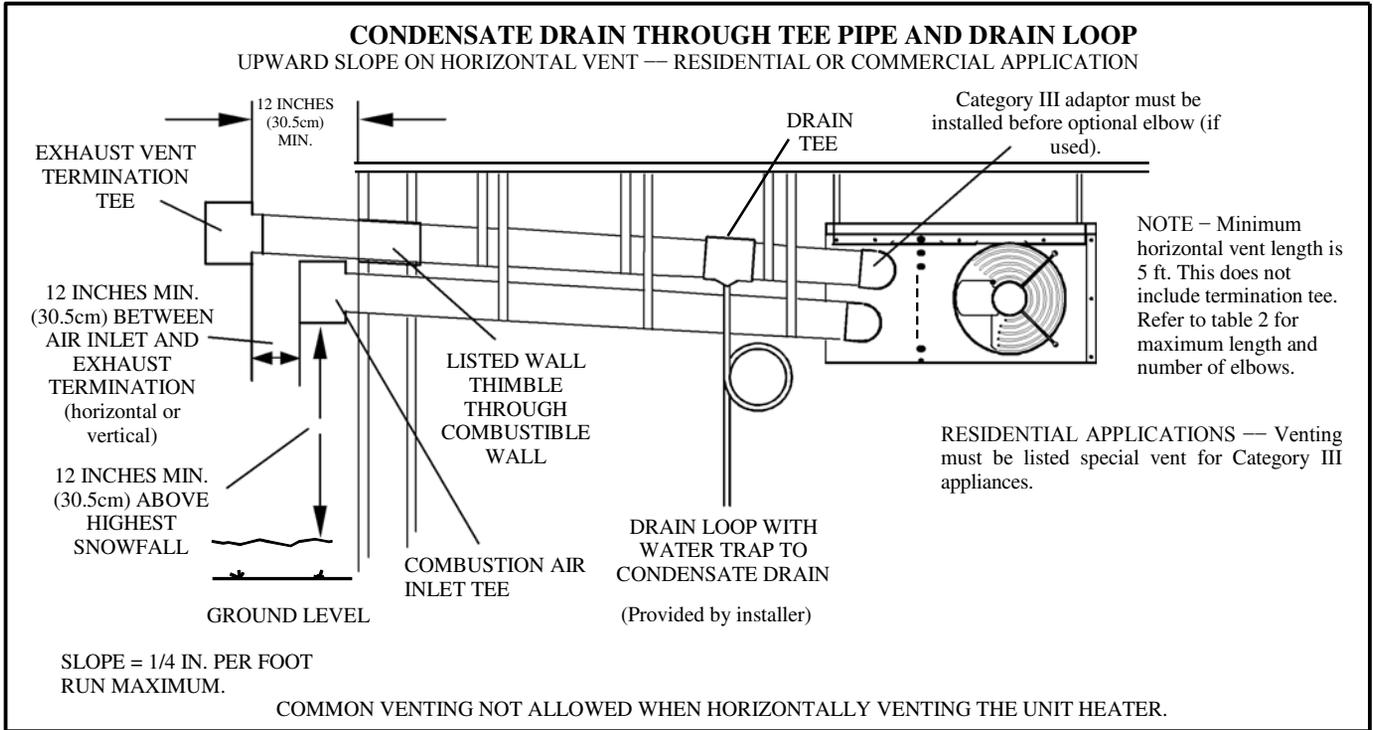
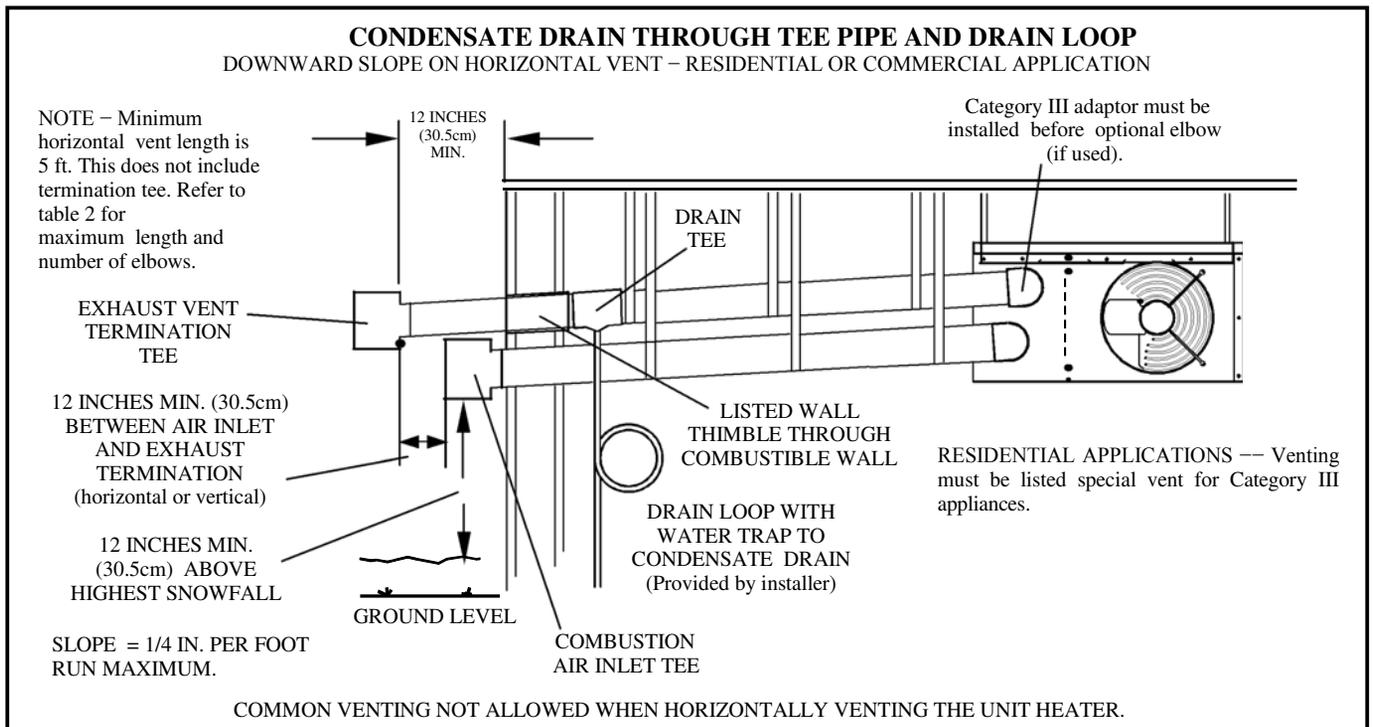
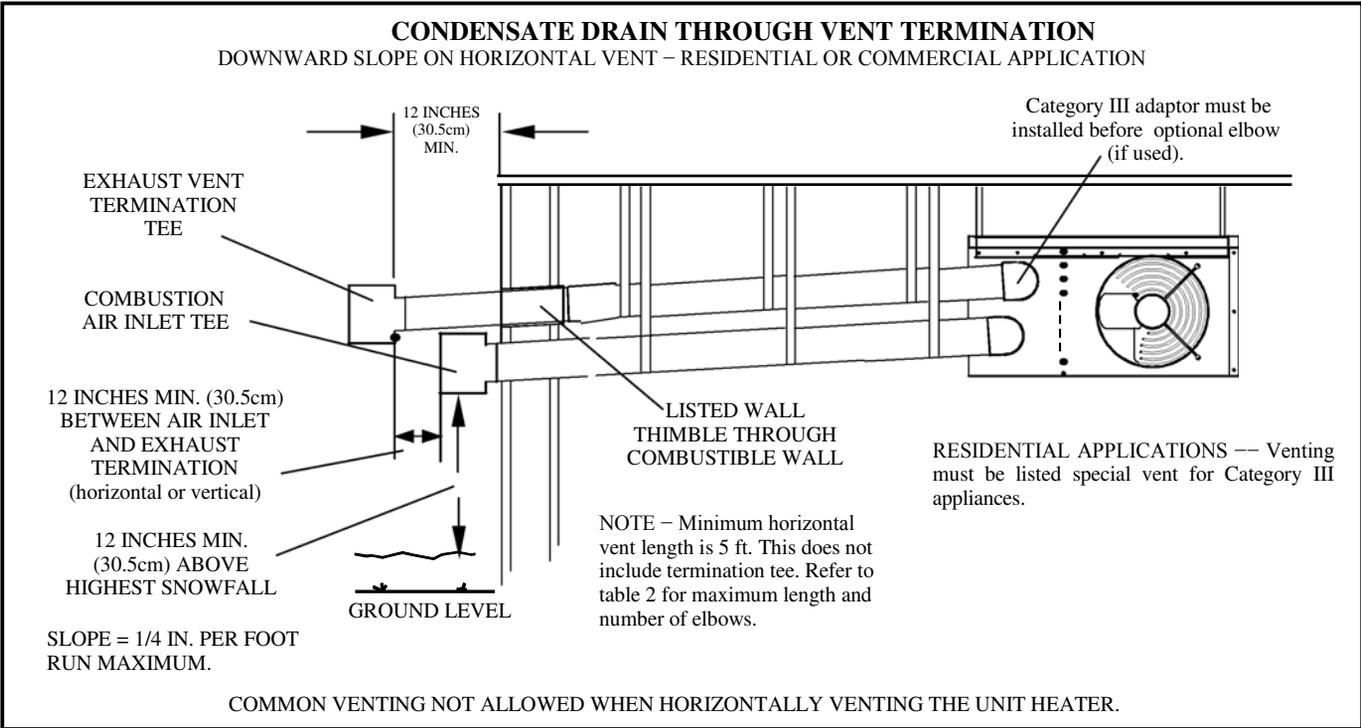
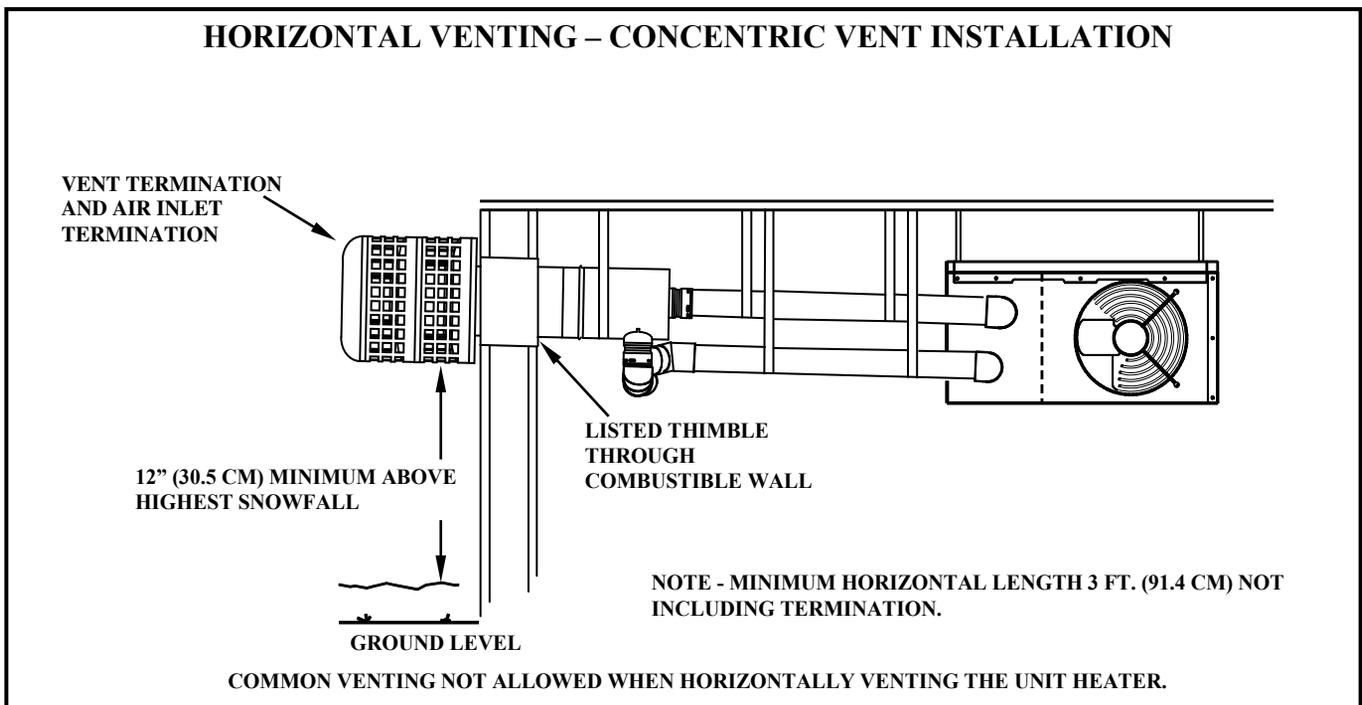

FIGURE 3
FIGURE 4
FIGURE 5
FIGURE 5A
18) In areas where authorities having jurisdiction permit, a downward slope of maximum 1/4" per foot is also acceptable. Condensate drainage can be collected in a tee pipe section (figure 4) with drain loop similar to one used for upward slope vent, or allowed to drip through the vent termination, if permitted by authorities (figure 5).
- 4) Refer to Figure 5A for concentric kit termination, Figure 3 for upward slope with condensate trap, Figure 4 for downward slope with trap, and Figure 5 for downward slope with condensate drain through cap where permitted by local authorities.